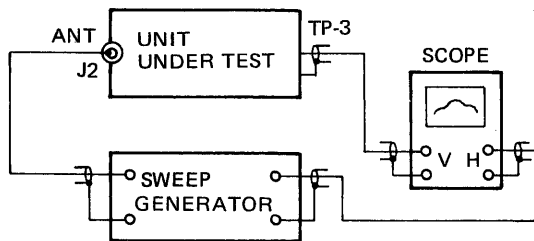

FIGURE 9
Step 1: Connect instruments as shown in Figure 9.